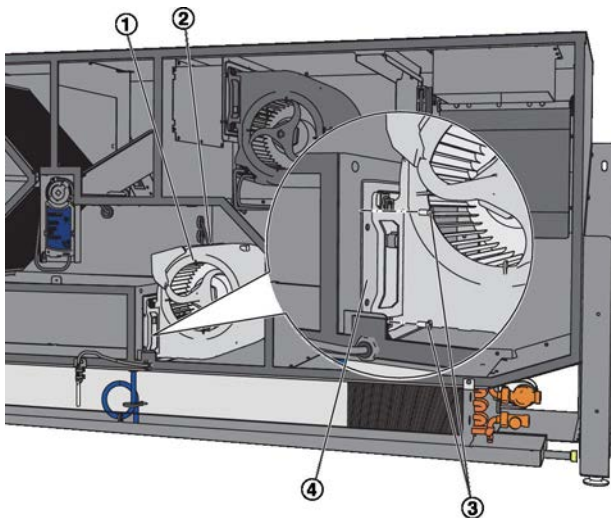

Fig. 28: Replacing the extract air fan
The extract air fan (Fig. 28/1) is installed below the supply air fan.
3. ▶ Remove the two plugs of the connecting cables (Fig. 28/2) at the rear of the fan.
4. ▶ Demount the retaining bracket for the fan (Fig. 28/4) by loosening the two Phillips screws (Fig. 28/3).
5. ▶ Pull the fan (Fig. 28/1) with the retaining bracket (Fig. 28/4) towards you.